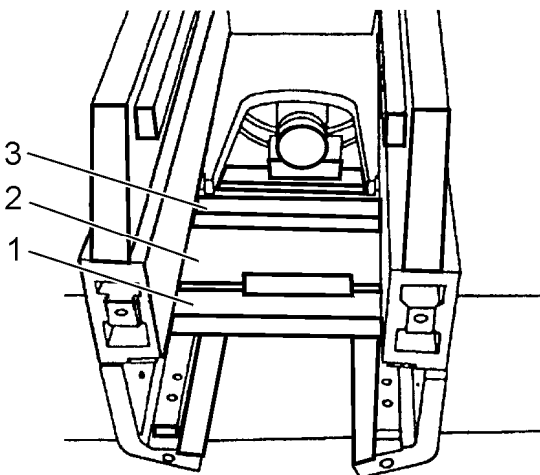

Fig. 14.43. Interim Brace Installation
10. Slide idler hole brace (3, Fig. 14.43) through track frame. Install interim brace (1) between ram base plate (2) and idler hole brace (3) as shown in Fig. 14.43.